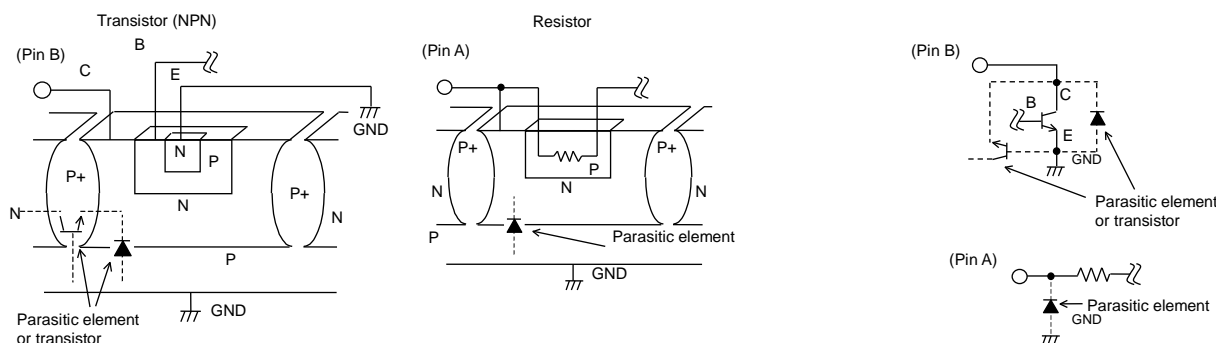

Fig.35: Example of the basic structure of a bipolar IC
- 2) This IC is bipolar IC that has a P-board (substrate) and P+ isolation layer between each device, as shown in Fig.35. A P-N junction is formed between this P-layer and the N-layer of each device, and the P-N junction operates as a parasitic diode when the electric potential relationship is GND > Pin A, GND > Pin B, while it operates as a parasitic transistor when the electric potential relationship is Pin B > GND > Pin A. Parasitic devices are intrinsic to the IC. The operation of parasitic devices induces mutual interference between circuits, causing malfunctions and eventually the destruction of the IC itself. It is necessary to be careful not to use the IC in ways that would cause parasitic elements to operate. For example, applying a voltage that is lower than the GND (P-board) to the input terminal.